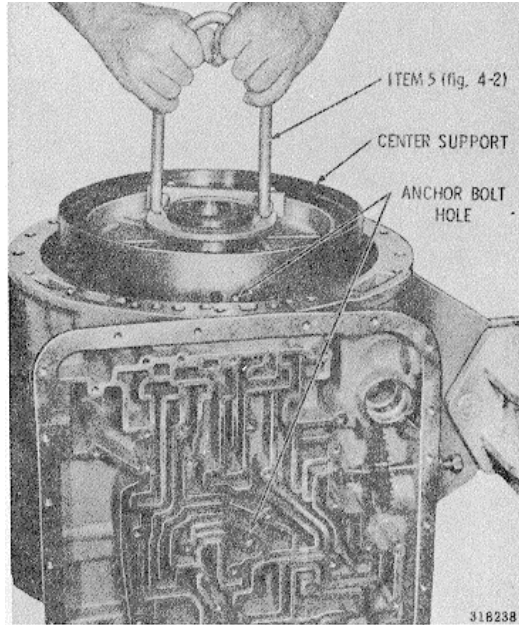
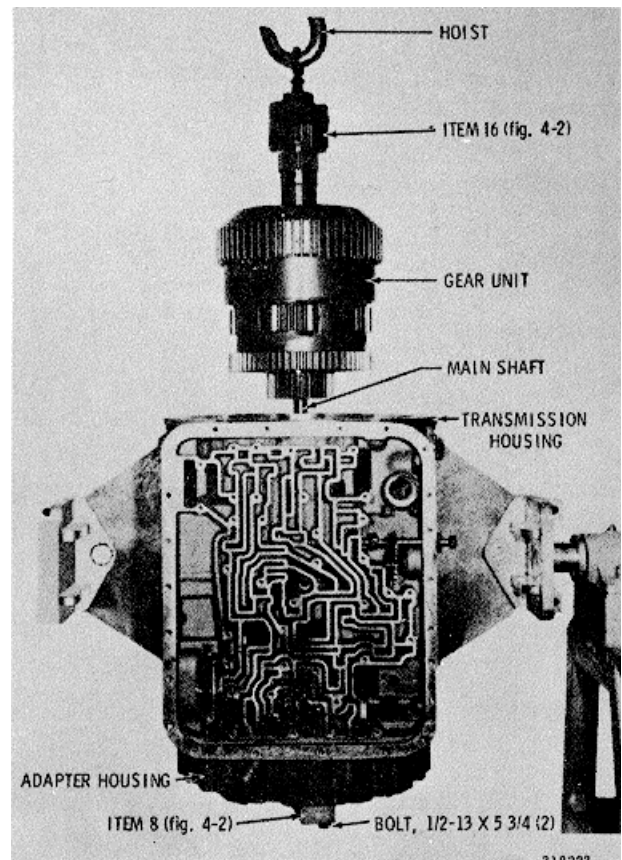

Fig. 7-5. Installing center support assembly
Fig. 7-14. Installing gear unit assembly
(3) Remove the third-clutch piston from the center support assembly (if not previously removed). Install bracket 5 (Fig. 4-2) into the recess between the step-joint sealings on the center, support hub (Fig. 7-5).
(4) Install the center support into the transmission housing (Fig. 7-5). Be sure the
(5) Remove lifting bracket 5 (Fig. 4-2) from the center support. Install the special 3/8-16 x 2 1/4-inch anchor bolt into the support through the anchor bolt hole in the bottom of the housing (Fig. 7-5). Tighten the bolt finger tight.
(4) Place the adapter housing with piston (front) downward onto the transmission housing.
(5) Install compressor bar 8 (Fig. 4-2) onto the adapter housing. Retain it with two 1/2-13 x 5 3/4-inch bolts (Fig. 7-14).
(6) Position the transmission with the front end upward.
(7) Remove the center support snapping and anchor bolt. Attach bracket 5 (Fig. 4-2) to the center support, and remove the support assembly (Fig. 7-5).
(1) Attach lifting bracket 16 (Fig. 4-2) to the assembled gear unit (Fig. 7-14). Lower the gear unit carefully, aligning the pinions of the rear planetary to mesh with the rear planetary ring gear.